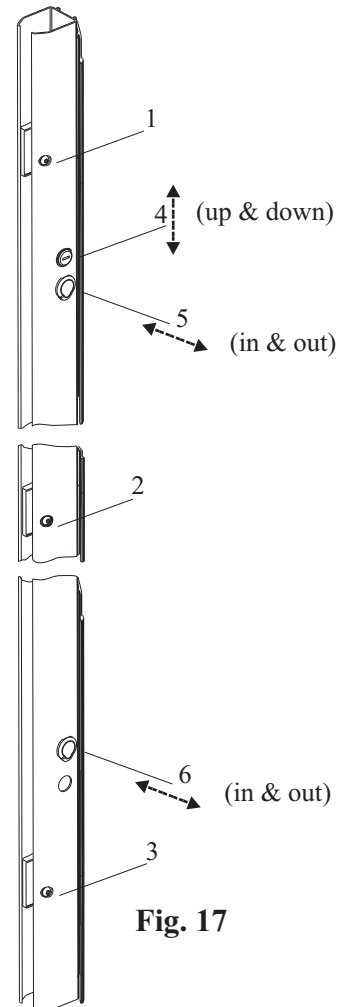

Fig. 17
4.2 Insert large side panels into wall profile glass clamps (see Fig.10) with the soft seal onto the tray and the fitted corner bracket to the front. Move the panels in or out until the corner brackets are spaced an equal distance from the front edge of the tray and the side face of the tray. Ensure the panels are vertical then fully tighten the 6 glass clamp screws using 2.5mm allen key supplied see Fig 17. If after adjusting for vertical, the corner brackets are not seated firmly on the tray, loosen grub screws and tap the brackets down onto the tray (caution - do not exceed 5mm adjustment on this bracket) Pack between bracket and tray if you require more adjustment.